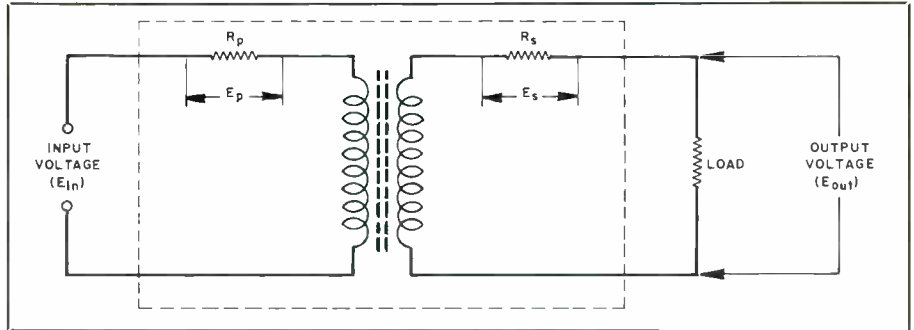
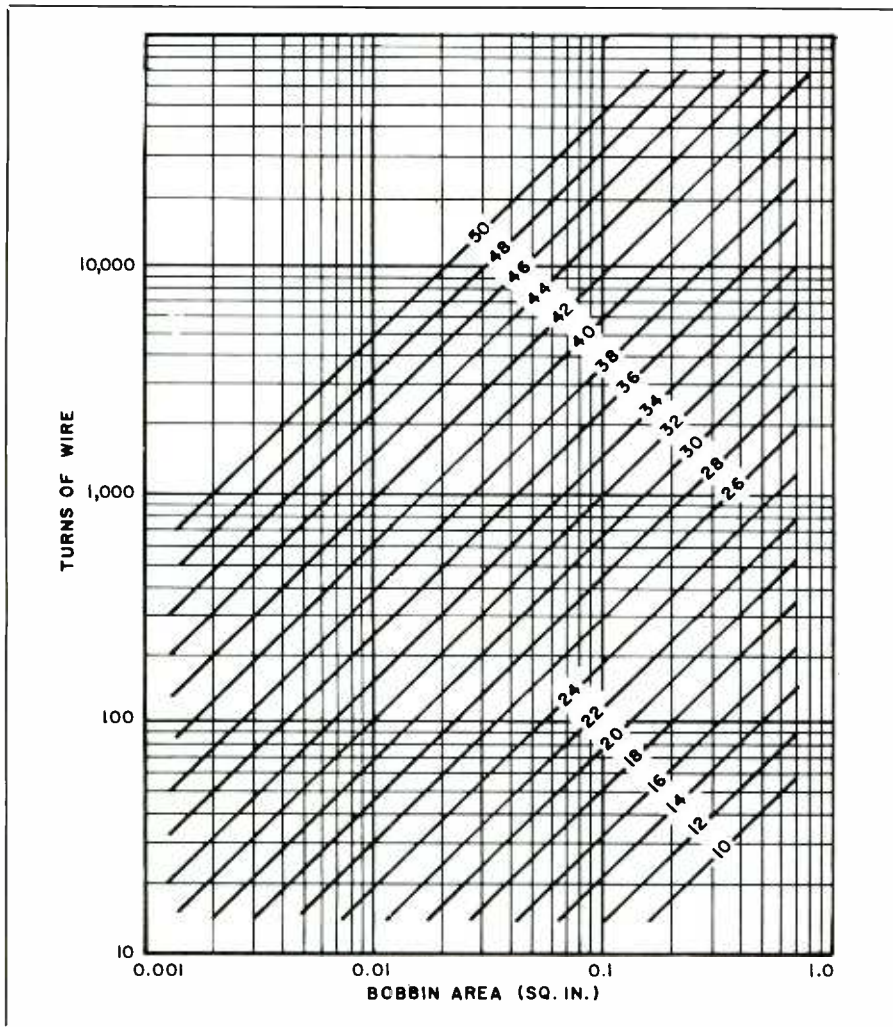

Fig. 4. Detail illustrates primary and secondary winding resistance of transformer with its IR voltage losses ( $E_p$  and  $E_s$ ).
Fig. 5. Bobbin capacity in number of turns and various wire sizes nomograph.
The resistance of the wire selected for the windings should be taken into consideration when selecting wire size. When many turns of fine wire are used, the total resistance of the winding can become an appreciable part of the circuit and will affect the voltage regulation and efficiency of the transformer. Figure 4 is a simplified diagram that illustrates the effect of the winding resistance.
Consider the transformer in Fig. 4 to be a perfect component with zero primary and zero secondary resistance. External resistances  $R_p$  and  $R_s$  can be considered to be equal to the measured resistance of the windings of the actual transformer.
- **Core Geometry.** After a pot core has been tentatively selected for the transformer design and the total number of turns has been calculated, Fig. 5 can be consulted to determine the capacity of the bobbin (in number of turns of wire) for various wire sizes. This graph helps in selecting the wire size to be used, as long as you remember that the minimum wire-size restriction shown in Fig. 4 is taken into account. Bobbin winding area, tabulated in square inches, is found in Table 2.
Figure 5 is based on just one winding on the bobbin. Since the transformer will contain three windings, the insulating tape that is to be placed between each winding will reduce the total number of possible turns you can wind on the bobbin; so take this into consideration as well when selecting core and wire sizes.